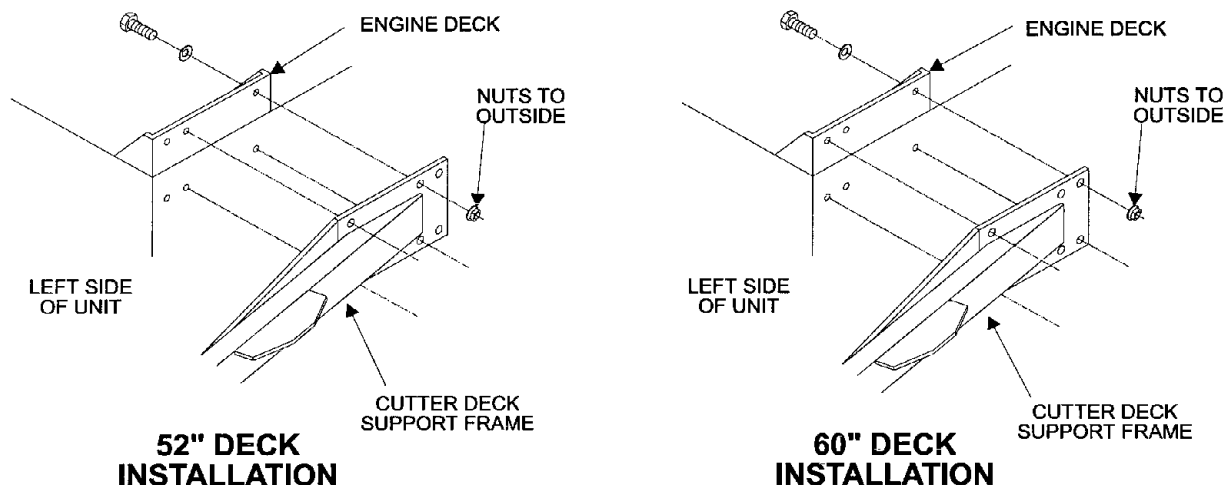

FIG. 1
- 3.3.3 Install cutter deck support frame to tractor engine deck and secure using (8) 3/8-16 x 1" screws, (8) disc spring washers and (8) whizlock nuts from bolt bag (See Figure 1).
NOTE: Make sure that the bolts are placed in the proper mounting holes in both frames. There are different mounting bolt locations for the 60" and 52" decks (See Figure 1).
NOTE: Place spring washer cone side against bolt head (cupped side away from head) and install to inside of engine deck (as shown in Figure 1). Install with whizlock nuts to the outside of the support frame. Tighten until spring washers are flat.